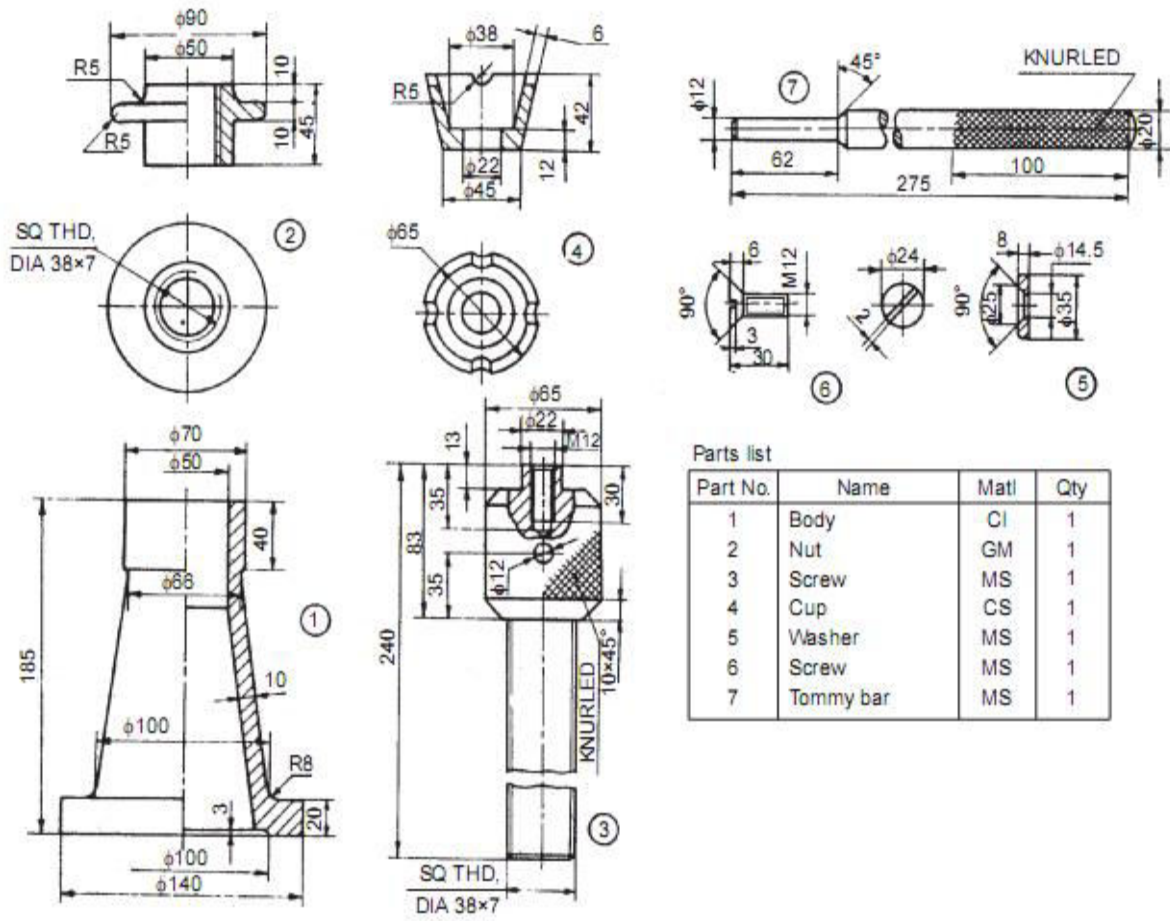

Fig 2
10. Assemble different parts of screw jack (Fig 2) and draw the following views for the assembled unit